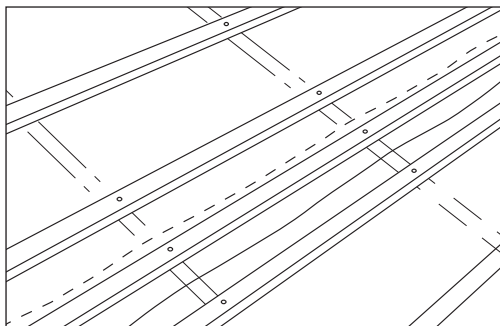

Fig 11 – Horizontal lap in underlay (sharing extra battens)
- Alternatively, fasten thin timber plywood strips of not less than half thickness of a batten directly over rafters between battens at which a lap occurs, but strips should be clear of any nibs on underside of tiles (Fig 11).